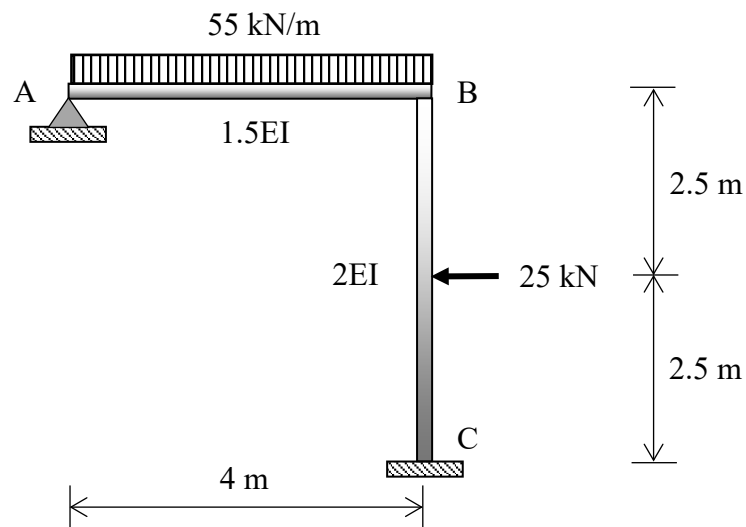

Figure B2(a) / Rajah B2(a)
- CLO1 (a) A statically indeterminate portal frame is loaded as shown in Figure B2(a). Identify the value of Fixed End Moment for each member.
- CLO1 (b) Identify the slope deflection equation for each member that experiences the internal moments in Figure B2(a).